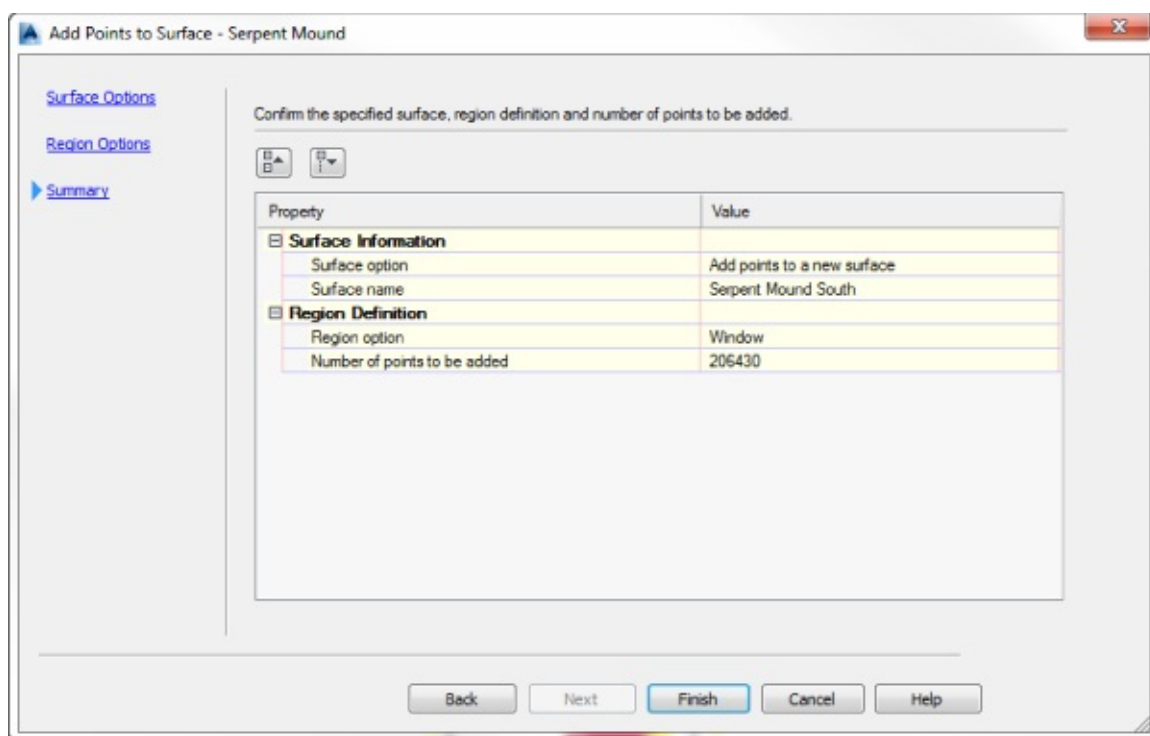

Figure 4.61 The Add Points To Surface – Summary page
8. Click Next to see the Summary page, shown in Figure 4.61, and click the Finish button. (Note that your number of points to be added will differ depending on the size of the window you created in the previous step.)